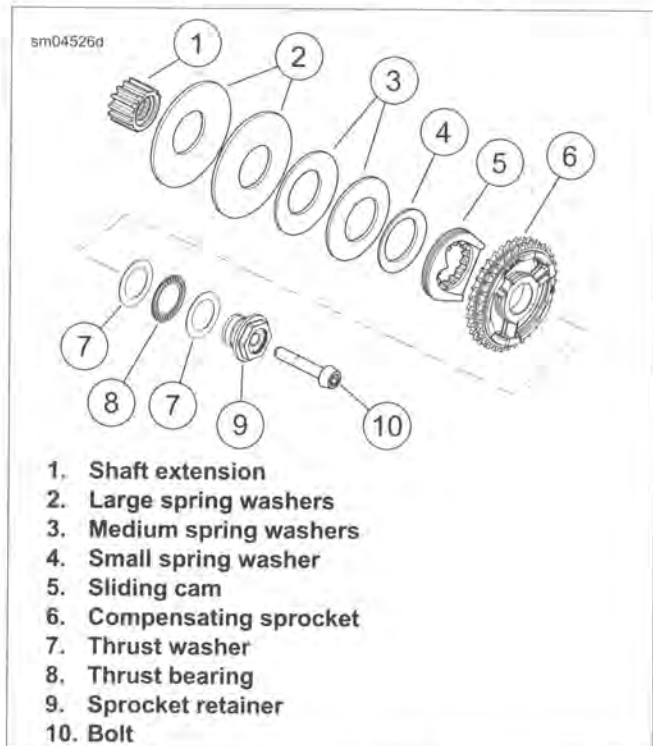
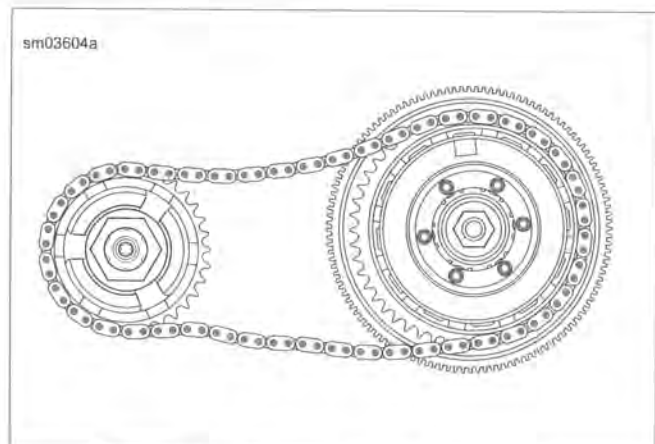

Figure 5-9. Engine Compensating Sprocket Assembly
Figure 5-10. Remove Drive Components
11. Rotate compensating sprocket bolt (1) counterclockwise to remove.
12. See Figure 5-9. Remove bolt (10), retainer (9), thrust bearing (8) and thrust washers (7).
14. Clean sprocket retainer (9). Verify that oil holes are clear.
15. See Figure 5-10. Remove clutch assembly, primary chain and compensating sprocket assembly as a single assembly.
- See Figure 5-9. Apply a thin layer of primary chaincase oil to the inner diameter of the compensating sprocket (6) and the splines of shaft extension (1). Assemble shaft extension, large spring washers (2) and medium spring washers (3).